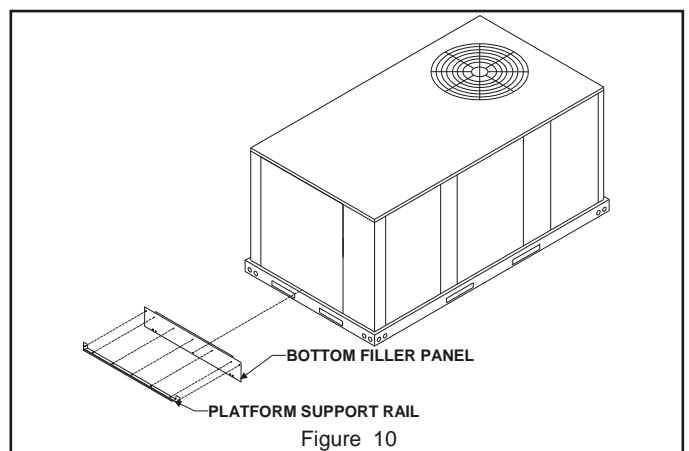

Figure 10
2. Attach bottom filler panel with platform support rail to bottom opening of rooftop unit aligning with screw holes used by removed door panel. Secure in place as shown in **Figure 10.**